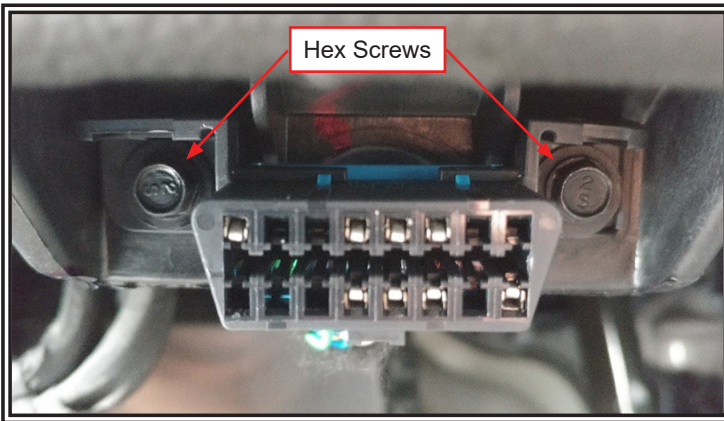

Figure 2
Step 2. Locate the OEM OBD connection point under the dash, as seen in FIGURE 2. Measure the torque used to hold the connector in place at the two (2) hex screws called out in FIGURE 2. Remove the two (2) hex screws and the OEM connector.